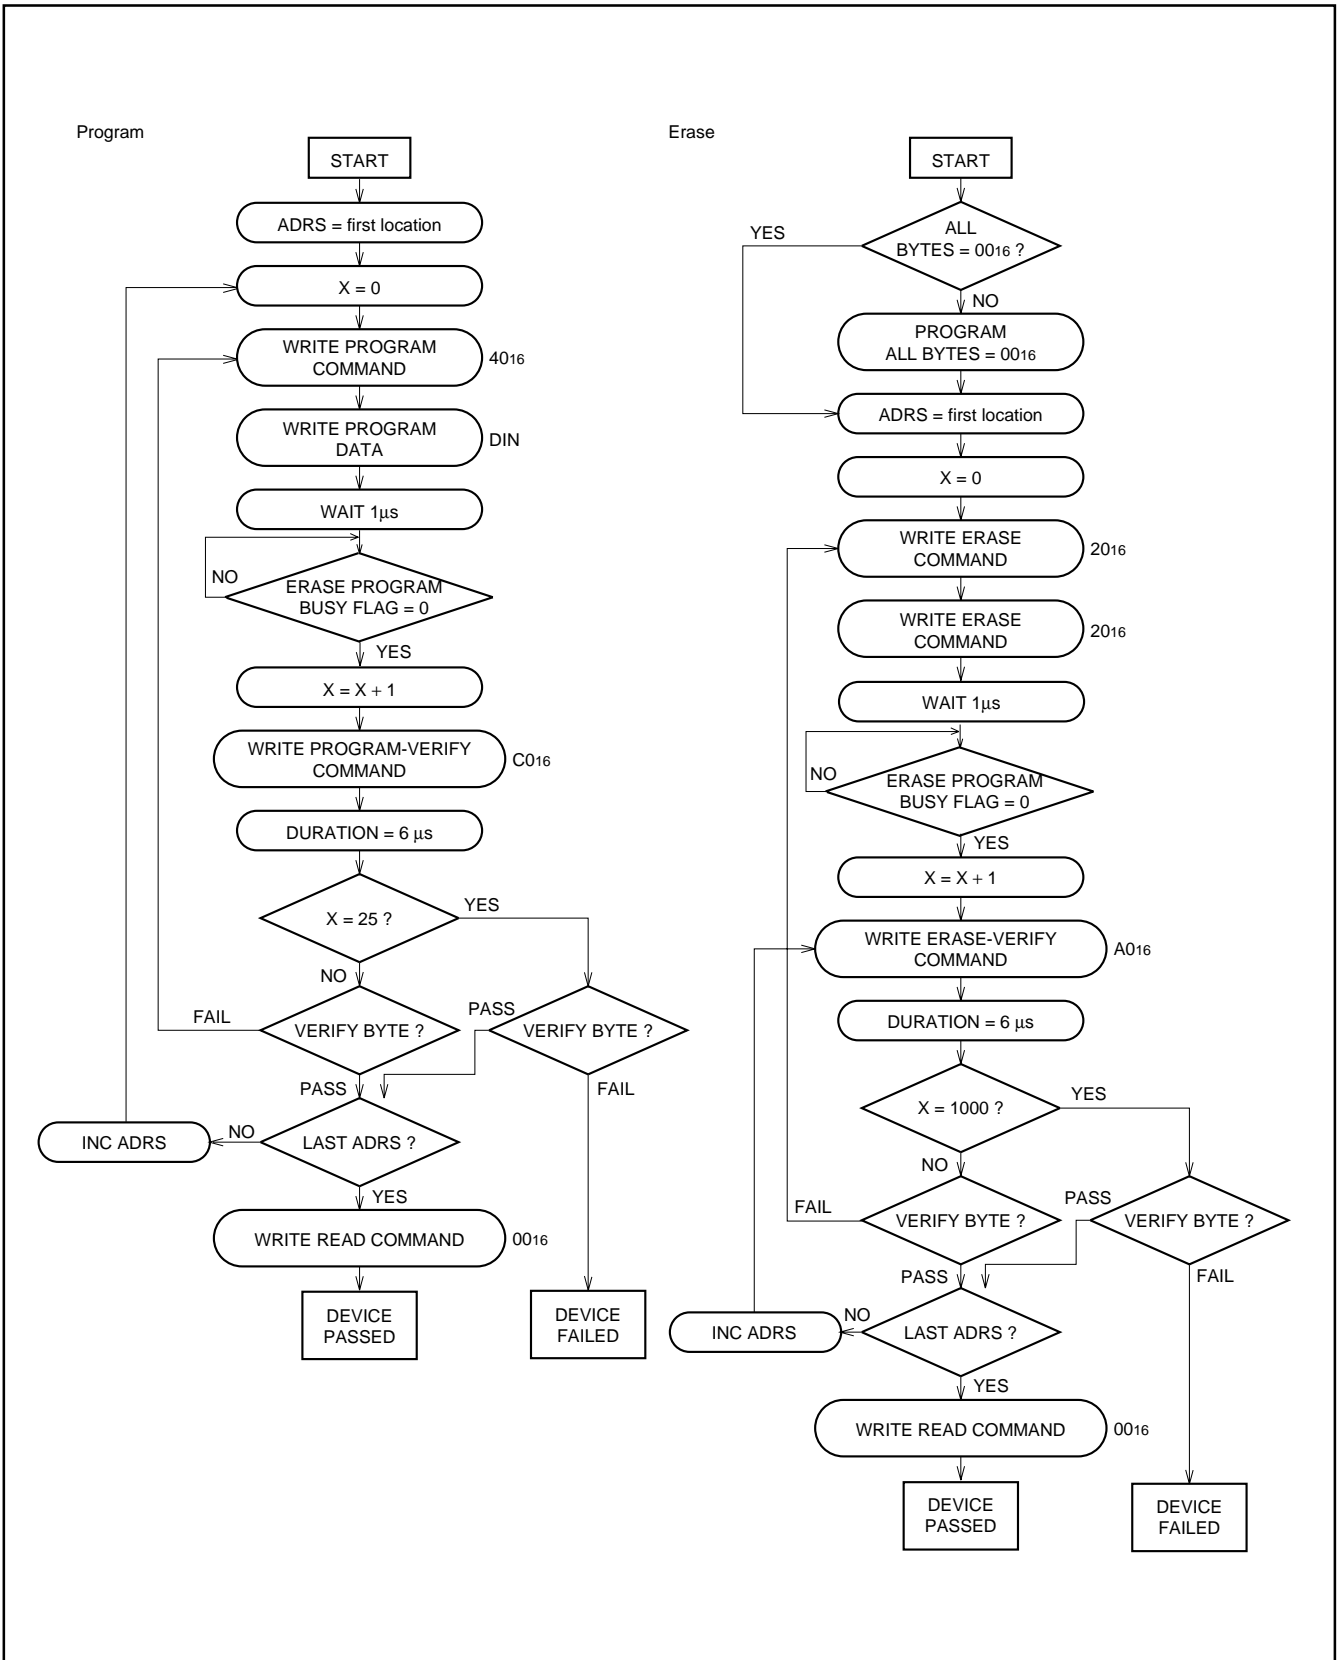

Fig. 102 Flowchart of program/erase operation at CPU reprogramming mode
**Note:** A programming operation is not completed by executing the program command once. Always be sure to execute a program verify command after executing the program command. When the failure is found in this verification, the user must repeatedly execute the program command until the pass. Refer to Figure 102 for the flow chart of the programming.
**Note:** The erasing operation is not completed by executing the erase command once. Always be sure to execute an erase verify command after executing the erase command. When the failure is found in this verification, the user must repeatedly execute the erase command until the pass. Refer to Figure 102 for the erasing flowchart.